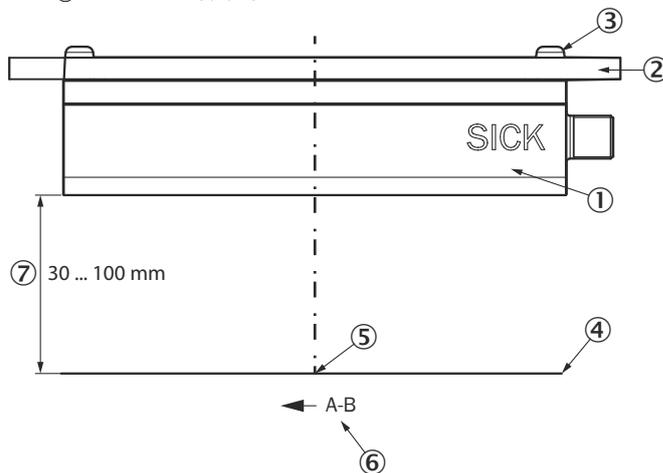

Figure 4: Nominal alignment of the sensor to the surface
## 6.5 Permissible deviations from nominal alignment (Fig. 4)
- ▶ For the mounting situation shown (**figure 4**), a certain angular deviation of the sensor **1** and/or the surface being measured **4** is permitted. These angles are listed in Table **table 10**.